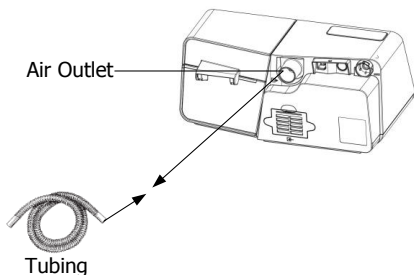

Fig. 11-5
(1) Connect one end of the tubing to the air outlet of the device, as shown in Fig. 11-5.